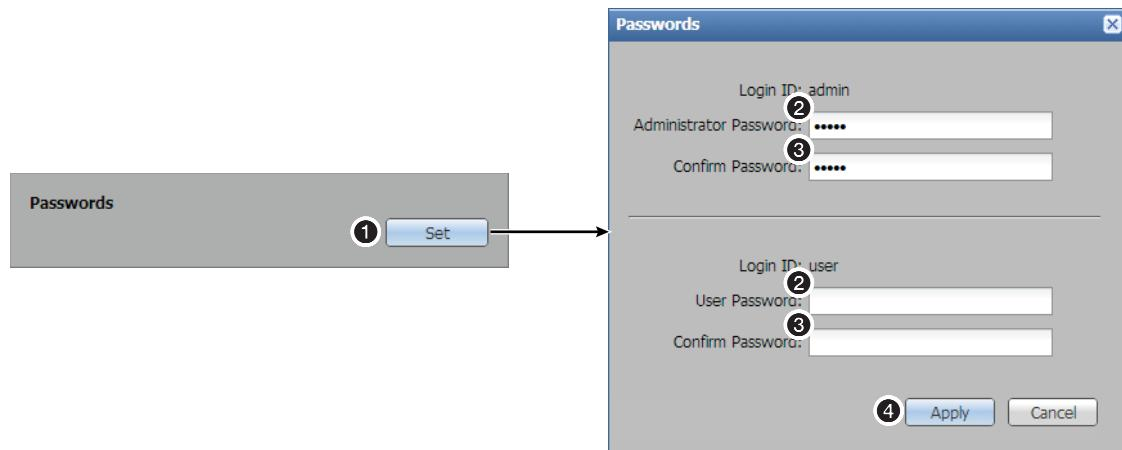

Figure 81. Passwords Dialog Box
Click **Set** in the Passwords panel (see figure 81, ①) to open the Passwords dialog box.